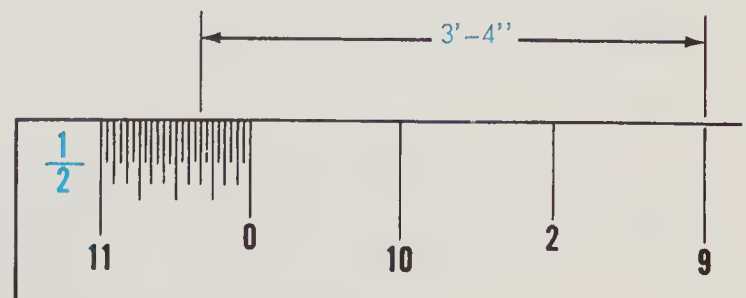

Fig. 10-5. Architect's scale $1/2" = 1' - 0"$.
Now, using the scale $1/2" = 1' - 0"$ ($1/24$ size) on the architect's scale, let us see how this scale is used. You should think of each dimension in terms of its full size, so think of the $1/2$ inch division representing one foot, Fig. 10-5. Lay off
2. Mark a short vertical dash at the whole number (3 feet in our example), Fig. 10-5.
3. The inches are marked in the subdivided end unit, (4 inches in our example), Fig. 10-5.